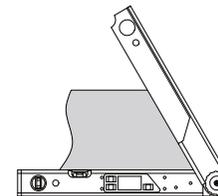
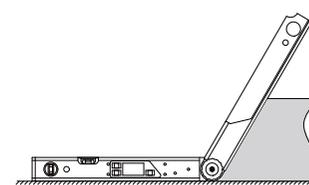
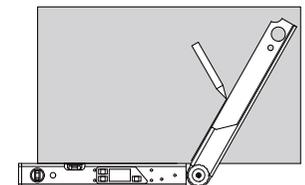

Fig.3
Fig.4
Fig.5
- c. Angle measurement (Fig.3, Fig.4) and scribing (Fig.5).